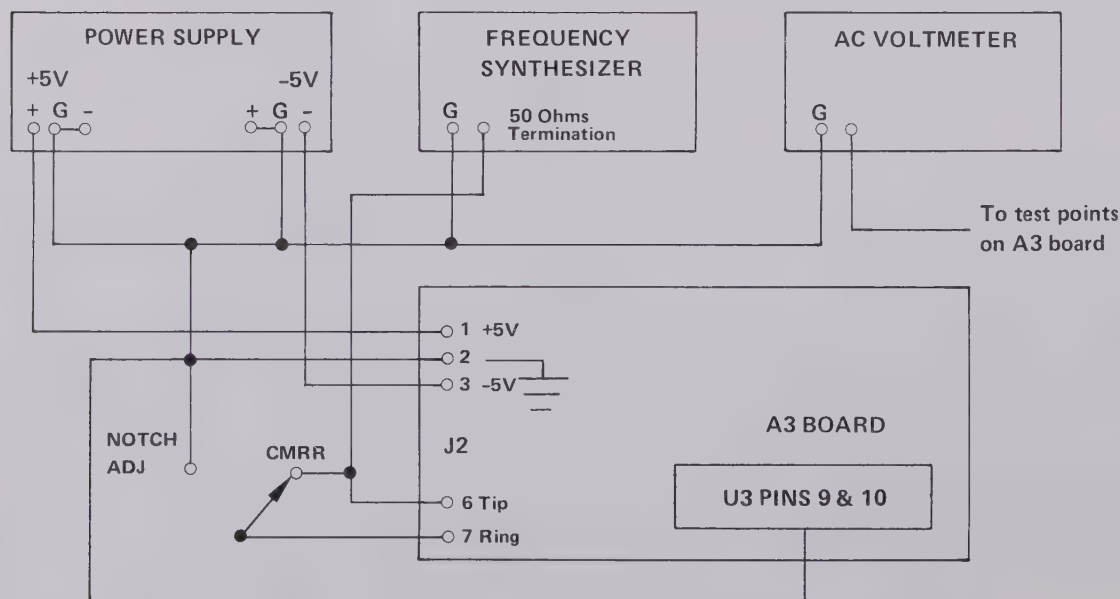

Figure 2-4. CMRR Adjustment Test Equipment Set-Up
- Step 1: Connect ground of the power supply, frequency synthesizer, and AC voltmeter to J2-2 of the A3 board, as shown in Figure 2-4. Connect the +5 V of the power supply to J2-1, and the -5 V to J2-3.